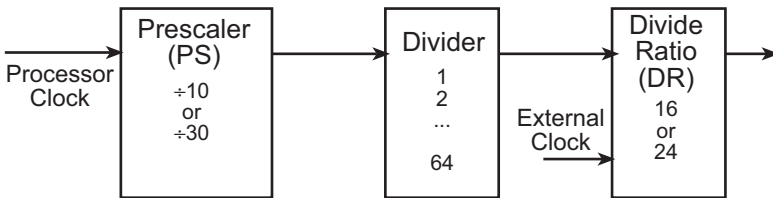

Figure 4-10. Baud-Rate Generator
The prescaler (PS) the divide ratio (DR) and the SS bits form a baud rate generator (see Figure 4-10).